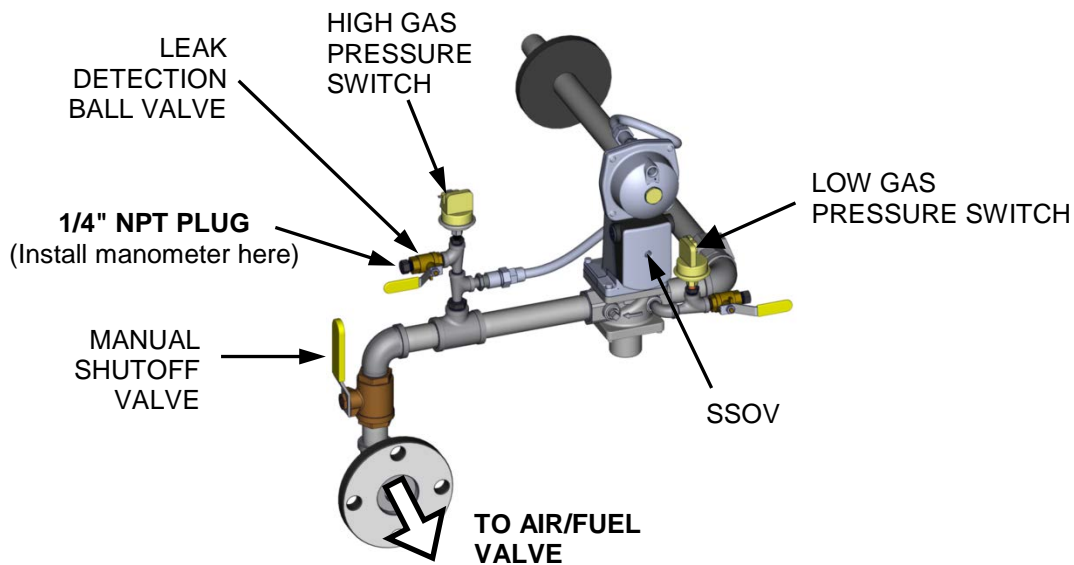

Figure 4-1. 1/4 Inch Gas Plug Location (INN1060 Gas Train Shown)
3. Remove the 1/4 inch NPT pipe plug from the leak detection ball valve on the downstream side of the Safety Shut Off Valve (SSOV) as shown in Figure 4-1.